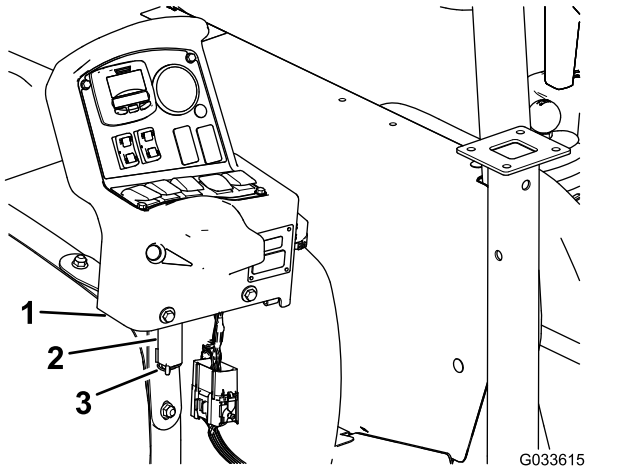

Figure 117
7. Remove the console from the console-mounting bracket at the dash of the machine and align the pivot pin on the control console with the storage bracket at the front tank strap (Figure 117); refer to 9 Installing the Control Console to the Machine \(page 22\).
8. Assemble the console to the bracket and secure the pivot pin to the bracket with the hairpin (Figure 117).